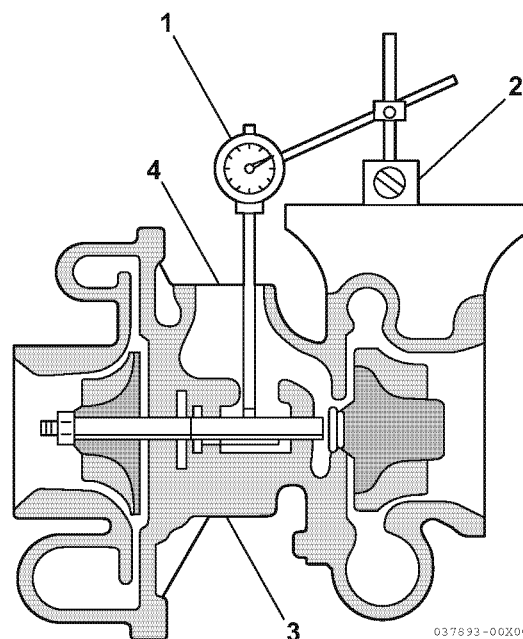

Figure 10-5
1. Set up a dial indicator as shown (Figure 10-5).